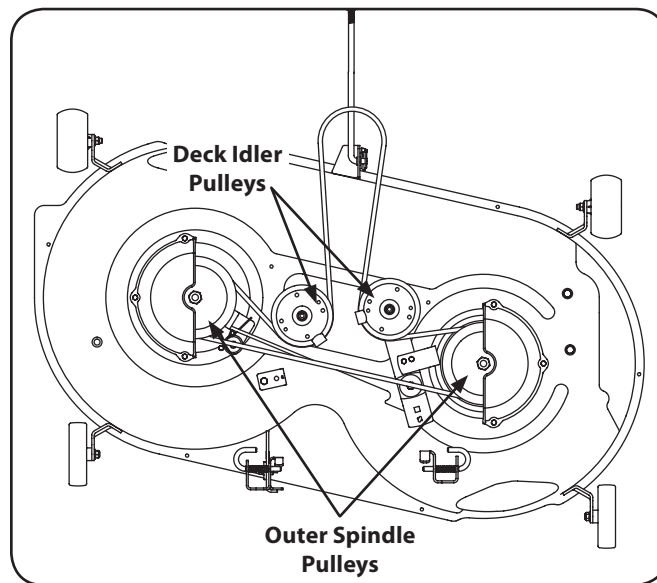

Figure 7-11
7. **On 46" Decks:** To place the new belt begin by routing the belt around the two outer spindle pulleys as shown in Figure 7-11.
8. Then route the belt around the two deck idler pulleys as shown in Figure 7-11.